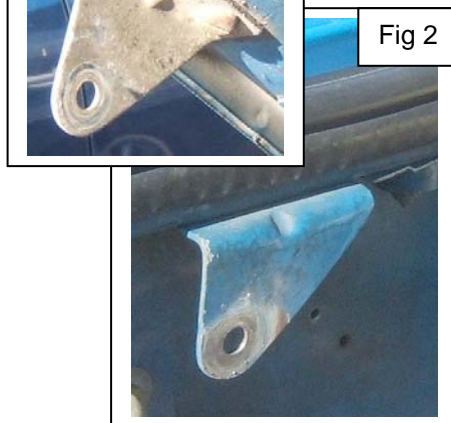

Fig 2
4. The lower bracket is shown in (Fig 2). *The brackets may be on the left or right side of the engine compartment depending on where the car was sold.*